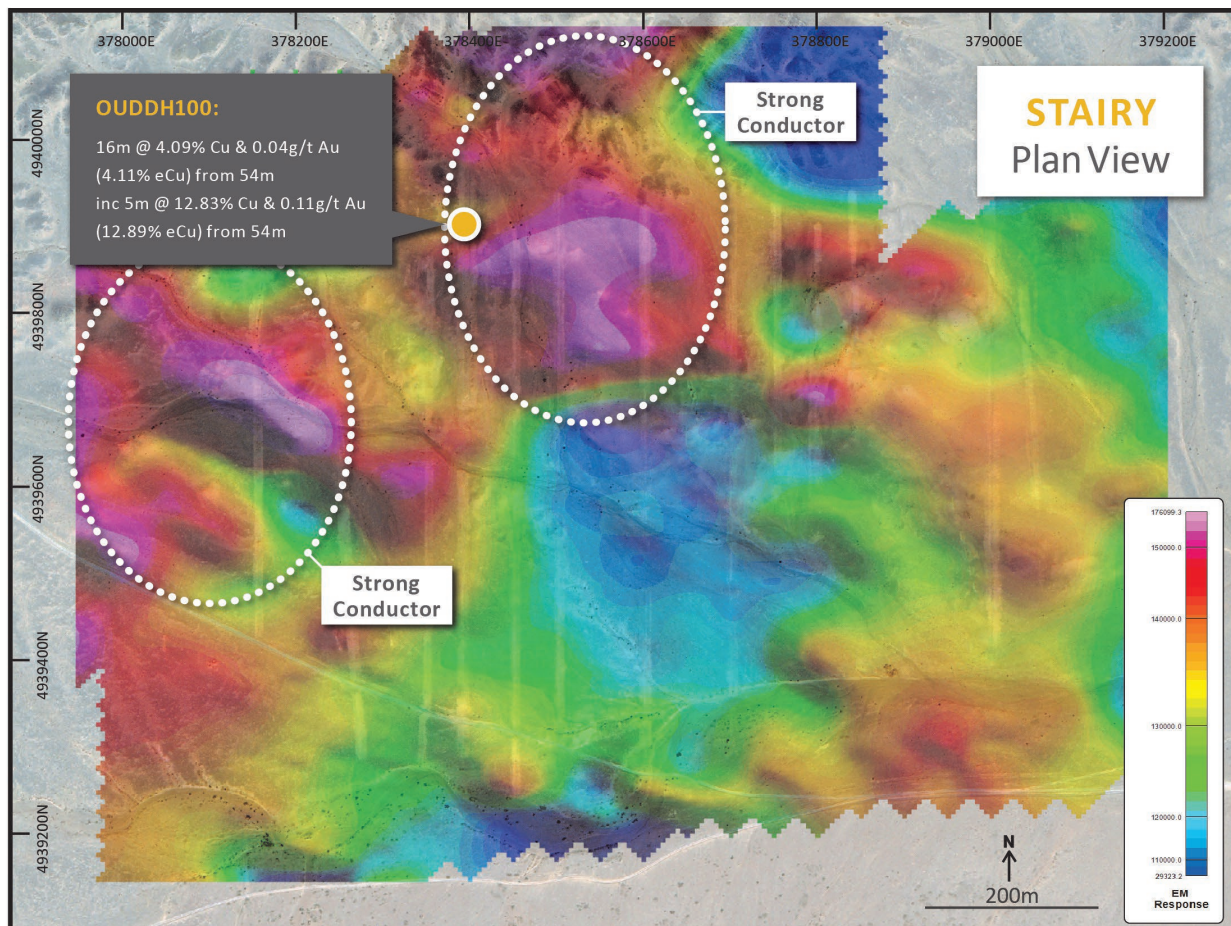

Figure 1. The Stairy Prospect MLEM plan map (combined 28 Channels) showing conductive anomalies.
The survey is split into two areas, a northern area and a southern area. Data from both grids have been received and results can be seen in **Figure 1**. These results show moderate to strong Electromagnetic (EM) responses in the late time channels for known lenses of massive sulphide, but more importantly show numerous stronger responses in along strike from known lenses in areas untested by trenching or drilling.